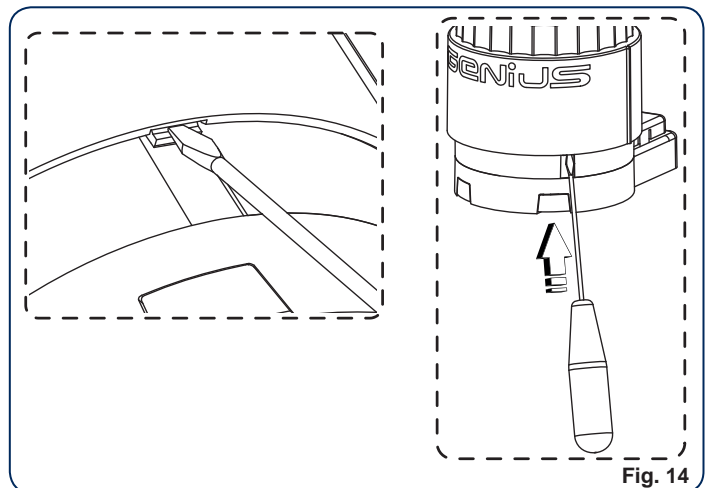

Fig. 14
- Press the locking tab shown in fig. 14 and remove the cover by turning it anti-clockwise.